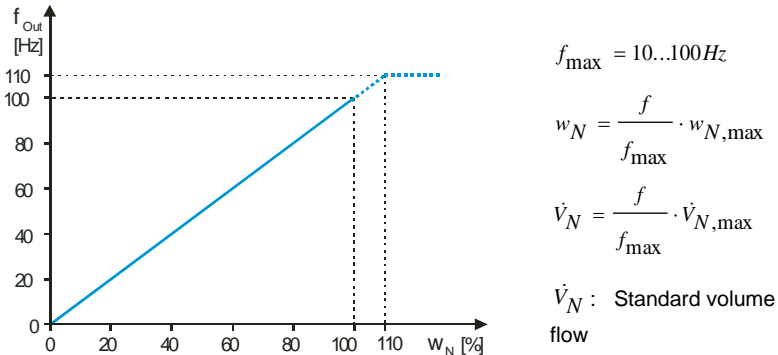

Figure 5-3 Example for $f_{\max} = 100 \text{ Hz}$
- The standard version maps the flow velocity w_N proportional to a selectable frequency range from 0 to f_{\max} (see Figure 5-3).